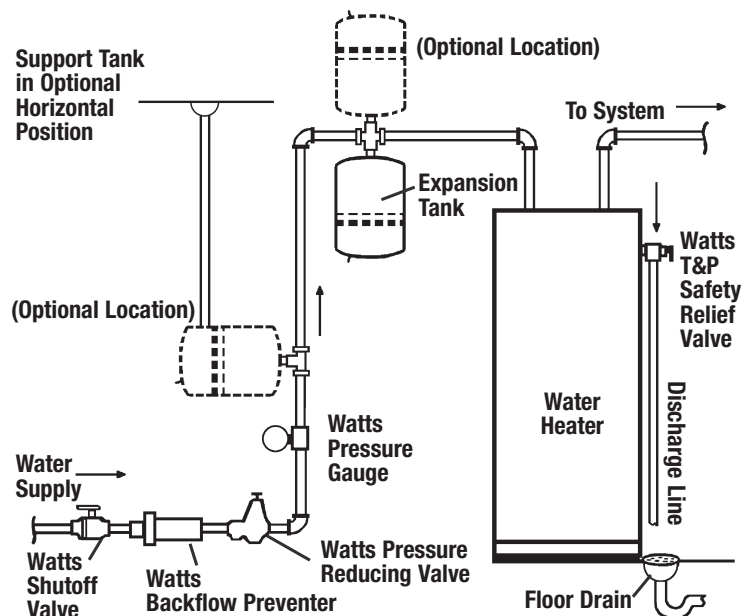

Figure 1
- Read the system pressure at the pressure gauge (Figure 1).
- Install the expansion tank in the system (refer to Figure 1).